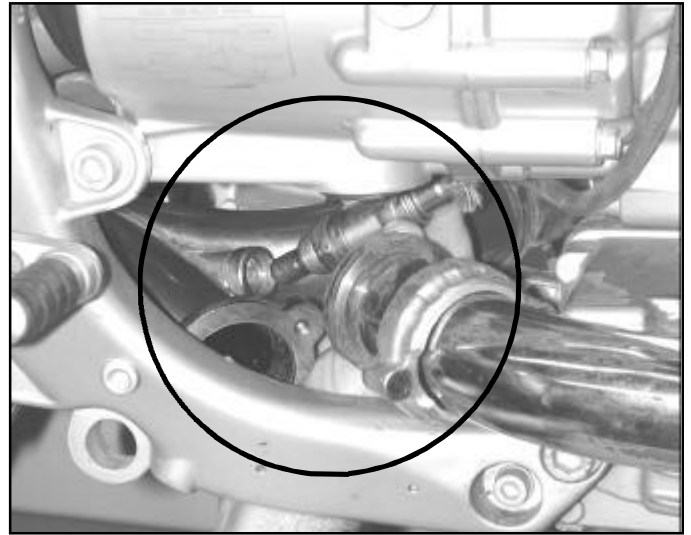

Figure 8
9. Thread the Sensor into its port in the Collector pipe and firmly tighten the Sensor. Figure 8.